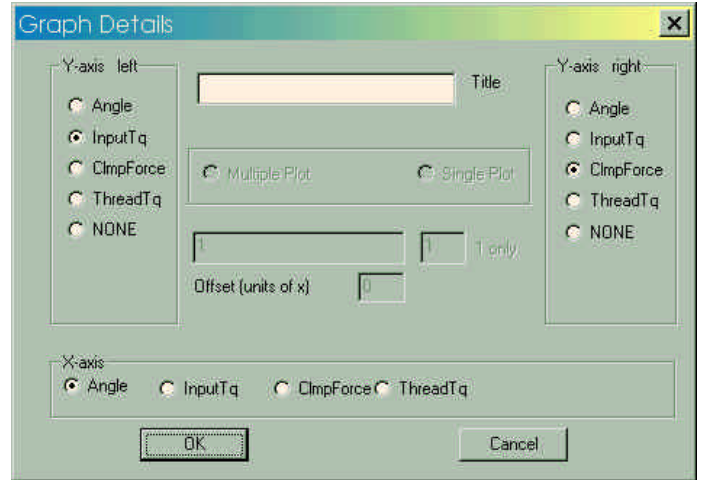

Figure 6. Graph Data Dialog Box, Single Plot
1. In the Graph Details dialog box (refer to Figure 6), you have the following options: